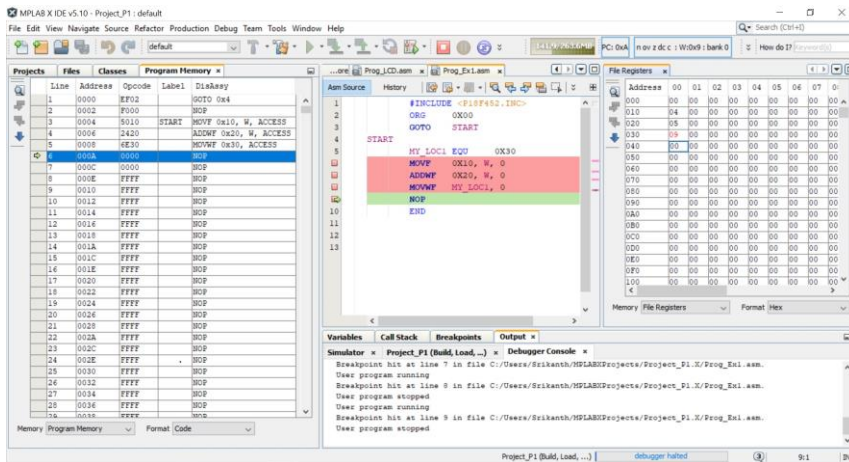

Fig 4.24 Breakpoints
20. Breakpoints may be added to see step wise execution of the program by clicking on the line numbers shown on the left side of the editor as shown in Fig 4.24. The execution pauses or stops the execution of instructions at every breakpoint and waits for the user to continue (highlighted in green). User may press F5 or click green arrow to proceed.